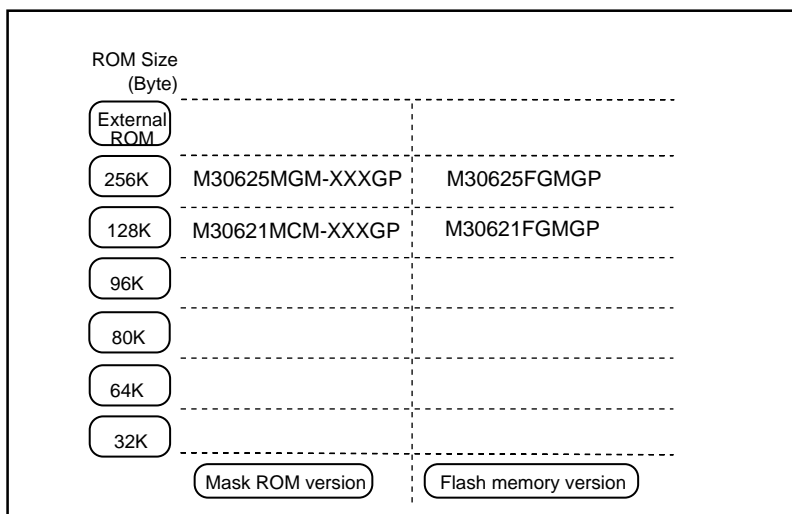

Figure 1.1.3. ROM expansion
- Memory capacityROM (See Figure 1.1.3. ROM Expansion)